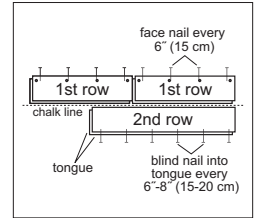

Figure 8
- Use a pneumatic finish nailer to face-nail the groove side 1/2" (13 mm) from the edge at 6" (15 cm) intervals and 1"-3" (2.5-7.6 cm) from each end. Then, blind nail using finishing gun held at a 45° angle nail down through the nailing "pocket" on top of the tongue every 6"-8" (15-20 cm) (Figure 8).